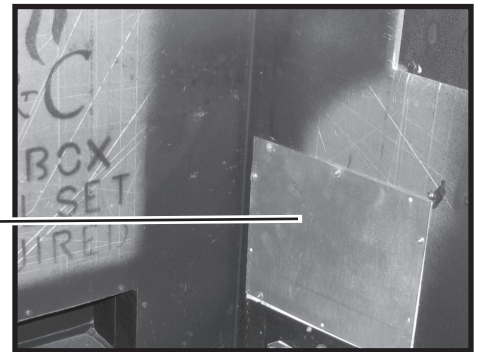

Figure 24: Access panel location.
3. Remove access panel from right hand side of the firebox (Figure 24).